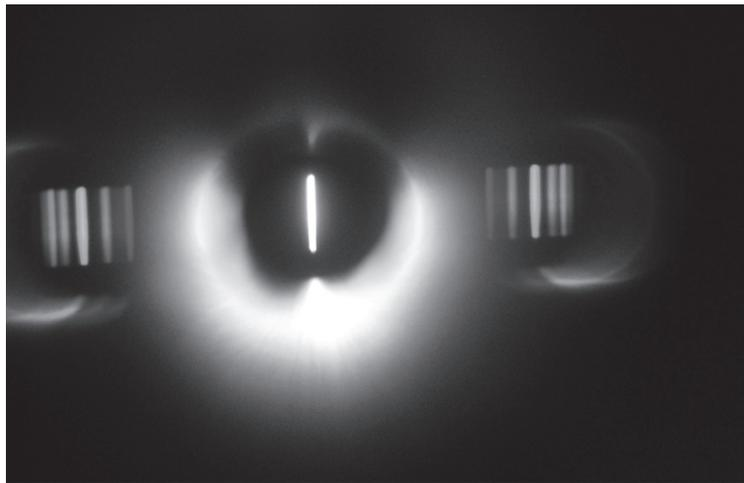

Figure 17 – Incandescent Light Spectra
b. Incandescent Light (See Figure 17.)